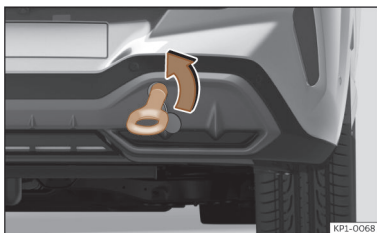

Fig. 216 Right side of the rear bumper: towline anchorage screwed in.
- Screw the towing eye in the housing by turning it to the maximum **anticlockwise** >>> **Fig. 216** , >>> ①. Use a suitable object that can completely and securely tighten the towing eye in its housing.